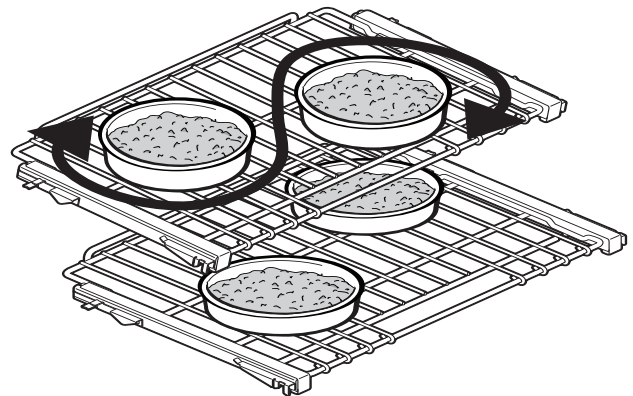

Figure 26: Pan Placement
- Stagger bakeware so that one is not directly above another. Allow 1½" (38 mm) above and below each pan (see Figure 26).